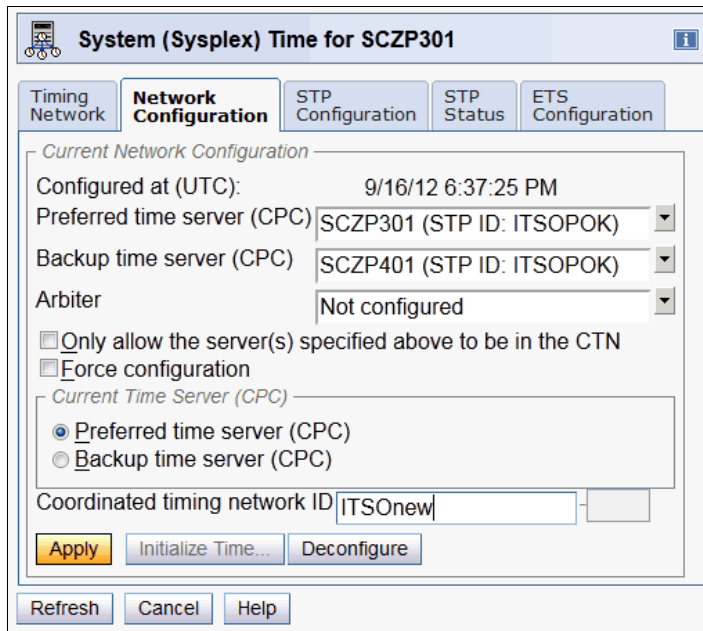

Figure 6-66 Network Configuration tab - Assigning CTS role to PTS
- Figure 6-66 shows the Network Configuration tab. A request is issued to reconfigure the CTN so that CEC1 becomes the CTS.